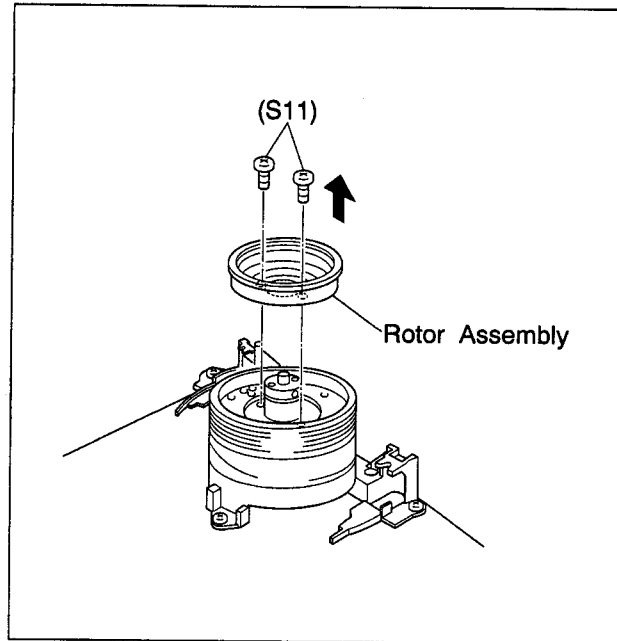

Fig.2-5-23
- (4) Overlap holes (a) of the upper drum assembly with holes (b) of the rotor assembly and secure with 2 screws (S11) as indicated in Fig.2-5-23.